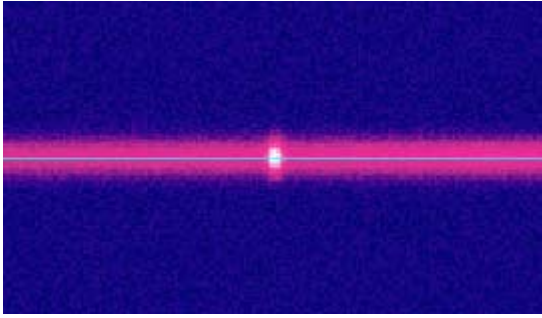

Fig. 12-18. Central line defined
- b. Place the mouse pointer in the line of the image where the signal is maximum and click the primary mouse button. This results in highlighting the selected line (Fig. 12-18) and in displaying its number in the **Center** input field in the Control panel of the **Andor CCD** tab.